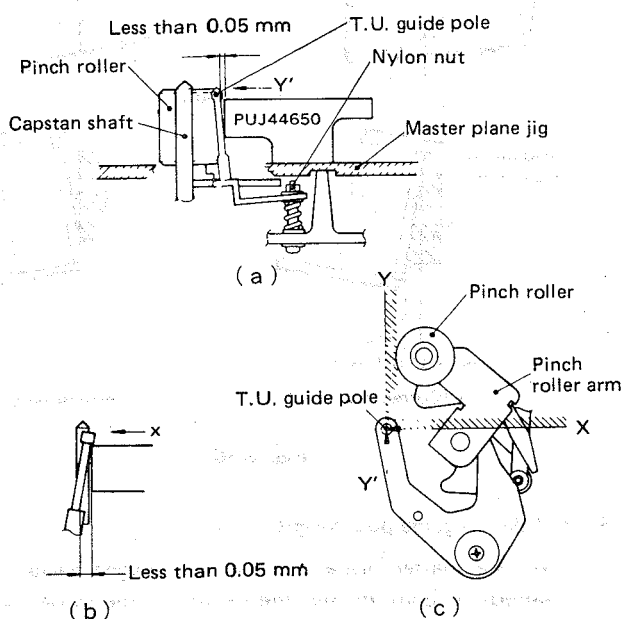

Fig. 2-32 Take-up guide pole perpendicularity
1. Set the master plane jig. Use the height gauge (PUJ-44650) to measure at the two orthogonal places (X-Y') as shown in Fig. 2-32 (c).
2. To measure at the Y' place, check that the perpendicularity degree between the take-up guide pole and height gauge is less than 0.05 mm as shown in Fig. 2-32 (a).
3. In the same manner, check at the X place as shown in Fig. 2-32 (b).
4. Perform the following check after completing steps 2 and 3. Check that tilt of take-up guide pole is less than 0.05 mm in both X and Y directions (shaded position) as shown in Fig. 2-32 (c).